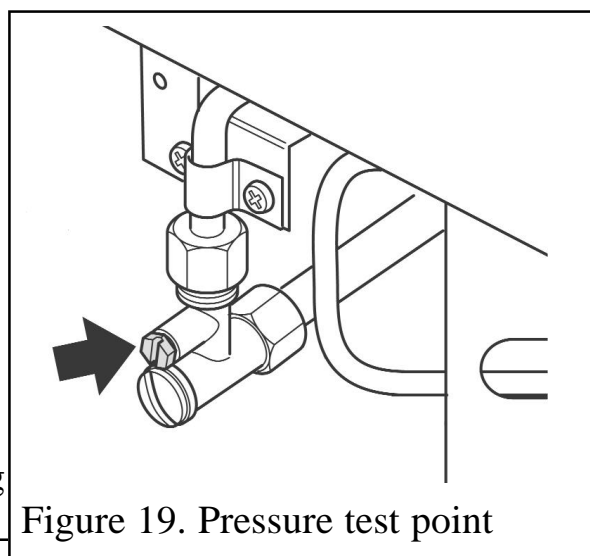

Figure 19. Pressure test point
1. Check the inlet pressure by fitting a pressure gauge at the test point. The test point is on the inlet 'T' connector (See figure 19). Check the pressure with the appliance alight and set at maximum output.